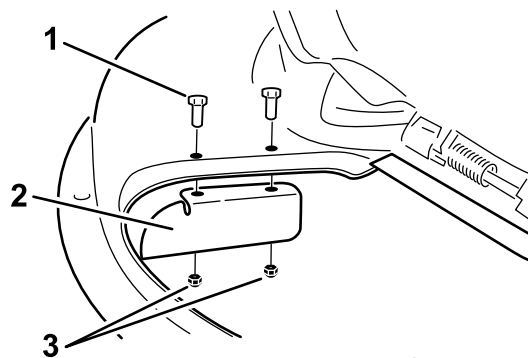

Figure 25
9. Install the cutoff baffle to the mower deck (Figure 25).
3. Remove the cutoff baffle from the mower deck (Figure 25).